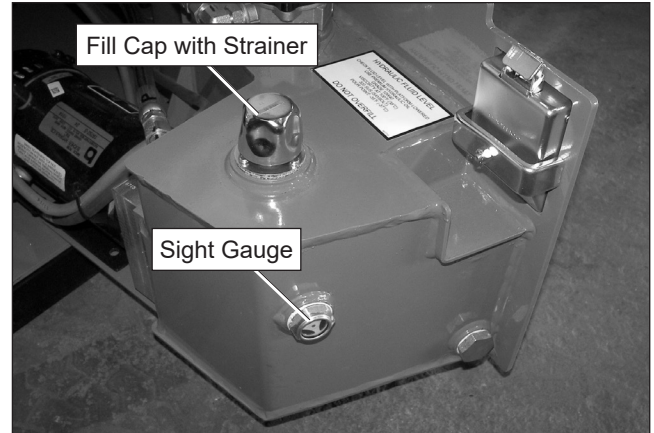

Figure 8.6 – Hydraulic Tray
- Make sure the aerial platform is fully stowed on a level surface. Swing out the hydraulic tray and visually check to make sure the fluid is visible in the sight gauge (refer to Figure 8.6). Some machines may have a fill cap with a dipstick. The fluid must be visible on the dipstick.